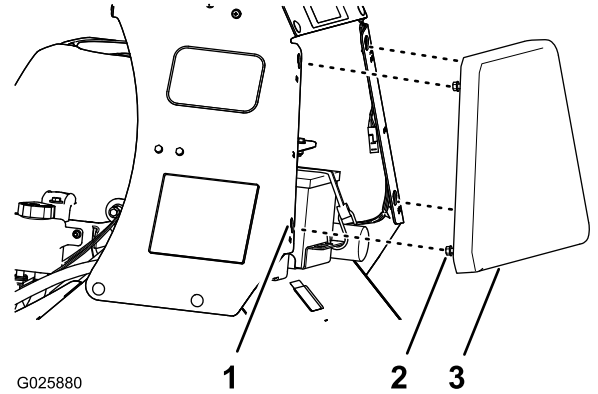

Figure 30
1. Loosen the 4 flanged-head bolts that secure the pad to the left and right console panels (Figure 30).
2. Lift the console pad (Figure 30) approximately 13 mm (1/2 inch).
3. Pull the console pad straight back and remove the pad from the machine (Figure 30).
1. Align the 4 flanged-head bolts at the forward face of the console pad to the 4 keyhole slots in the frame of the console (Figure 30).
2. Move the pad forward until the pad is flush to the console frame (Figure 30).
3. Move the pad down until the flanged-head bolts are seated in the keyhole slots (Figure 30).